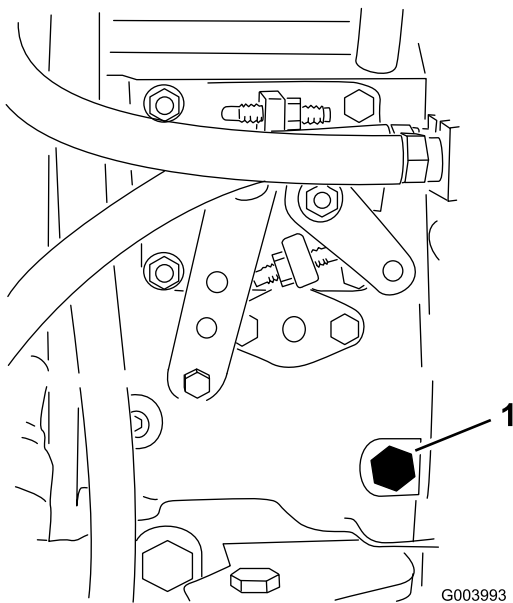

Figure 32
3. Open the air-bleed screw on the fuel-injection pump (Figure 32) with a 12 mm wrench.